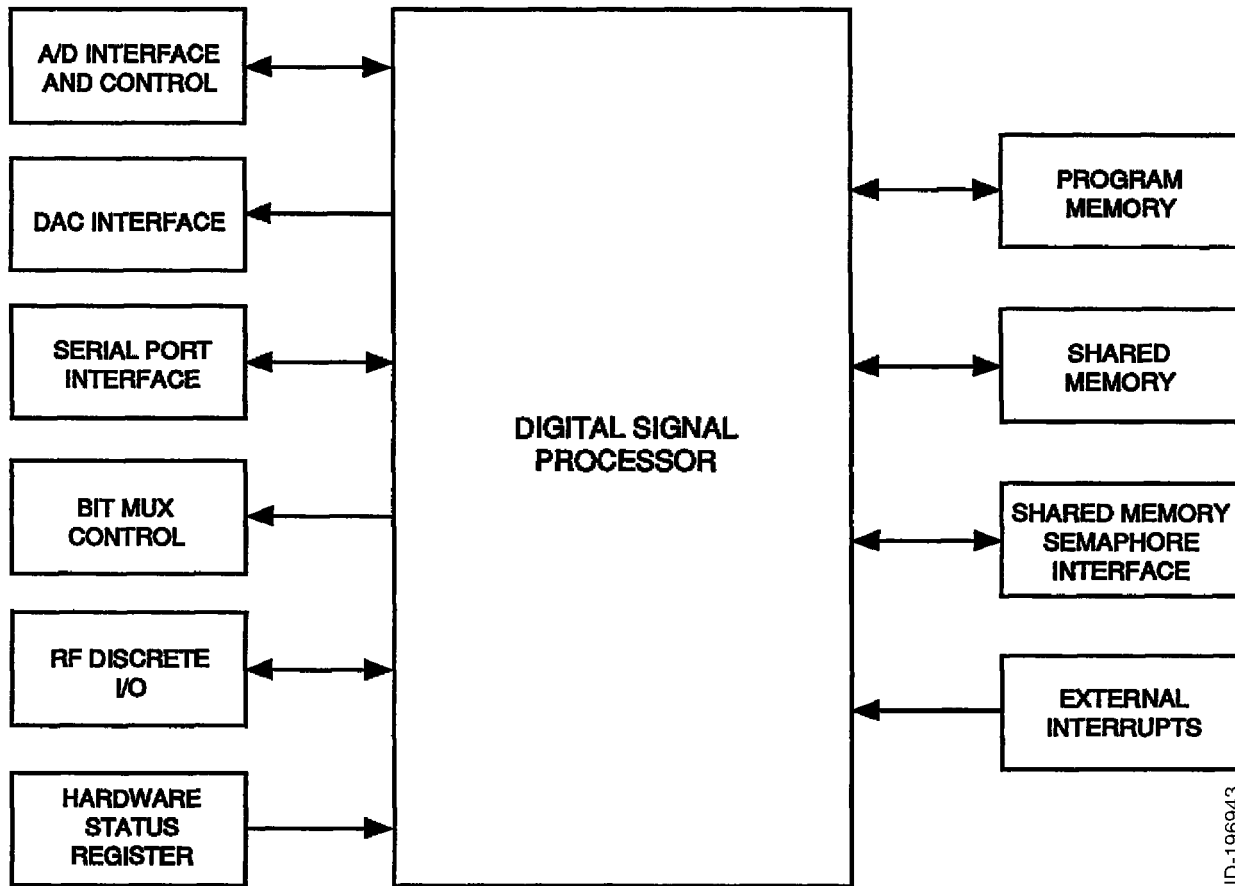

Figure 5. (Sheet 1 of 1) DSP Block Diagram (GRAPHIC 34-42-37-99B-806-A01)
- 1 See Figure 5 (GRAPHIC 34-42-37-99B-806-A01) for a block diagram of the DSP section. The DSP section is used to process the analog outputs from the RF module. The DSP section also generates some of the control signals to the RF module for: